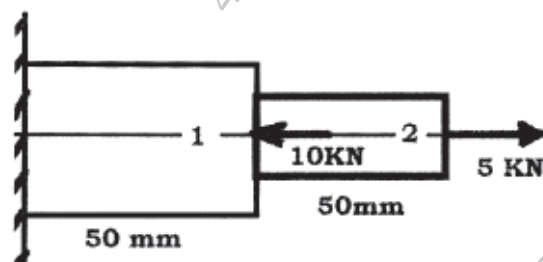

Fig.1
b) Find stresses in step bar due to forces 10kN and 5 kN. Refer fig.1. Modulus of elasticity: $E_1 = 200\text{Gpa}$ & $E_2 = 70\text{ Gpa}$, Area: $A_1 = 150\text{mm}^2$ & $A_2 = 100\text{ mm}^2$: [8]